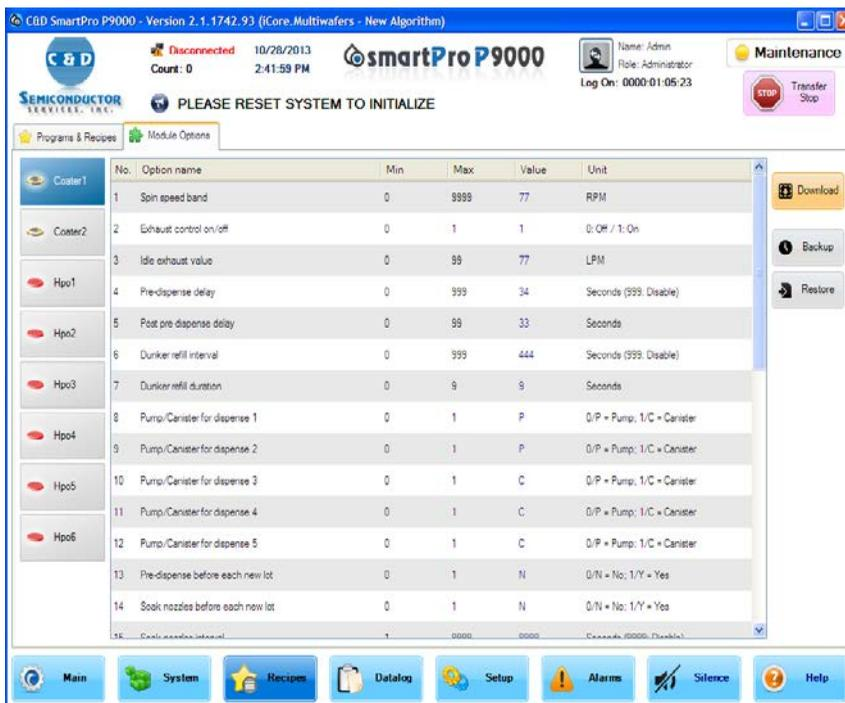

FIGURE 3-36: The Module Options page
- From the top of the Recipes page, click the Module Options tab. The Module Options page opens. See Figure 3-36.